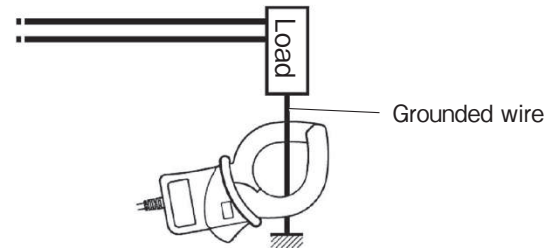

Fig.2 Measuring earth leakage current
- (2) Measuring earth leakage current (See Fig.2): Clamp onto a grounded wire.